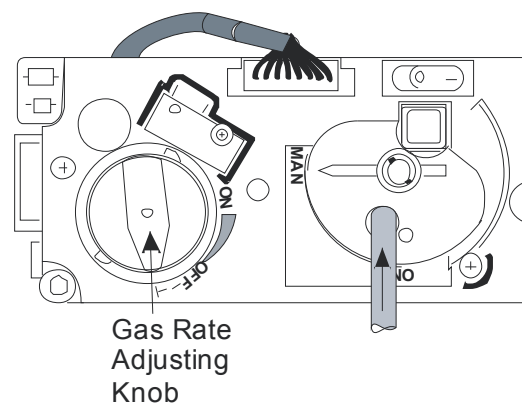

Figure 11
4. Using a rigid slender object (like a screwdriver) depress the pilot valve operator through the large hole in the knob (see **Figure 11**) and light the pilot using a match or lighted taper.
9. To turn the pilot off place the **ON/OFF** switch to **OFF (O)** position.